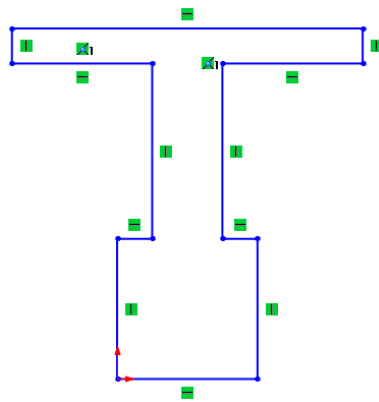

Figure 2-60 Final sketch for Tutorial 1
16. Move the line cursor vertically downward to the start point of the first line. Click when an orange circle is displayed; the final sketch for Tutorial 1 is created, as shown in Figure 2-60. In this figure, the grid display is turned off for clarity.
In Figure 2-60, the display of relations is turned on. To turn off the display of relations, choose the **View Sketch Relations** button from the **Hide/Show Items** flyout in the **View (Head-Up)** toolbar.